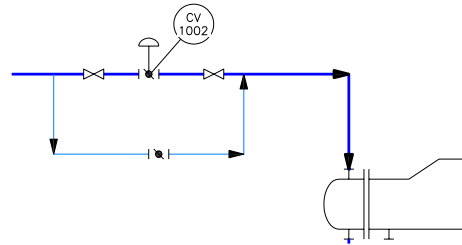

Figure 2-58 Location of gate valves and the butterfly valve
11. Similarly, place two gate valves and a butterfly valve on the pipe which is connected to the heat exchanger, as shown in Figure 2-58.